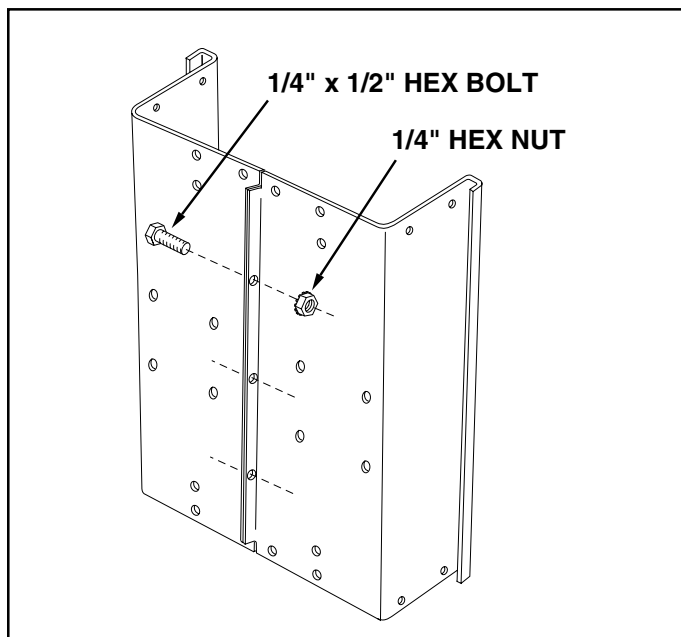

FIGURE 2
3. Position cart body halves upright on a smooth level surface such as a garage floor or a paved driveway. See figure 2.
4. Assemble halves together using three 1/4" x 1/2" hex bolts and 1/4" hex nuts as shown in figure 2. **Do not tighten yet.**